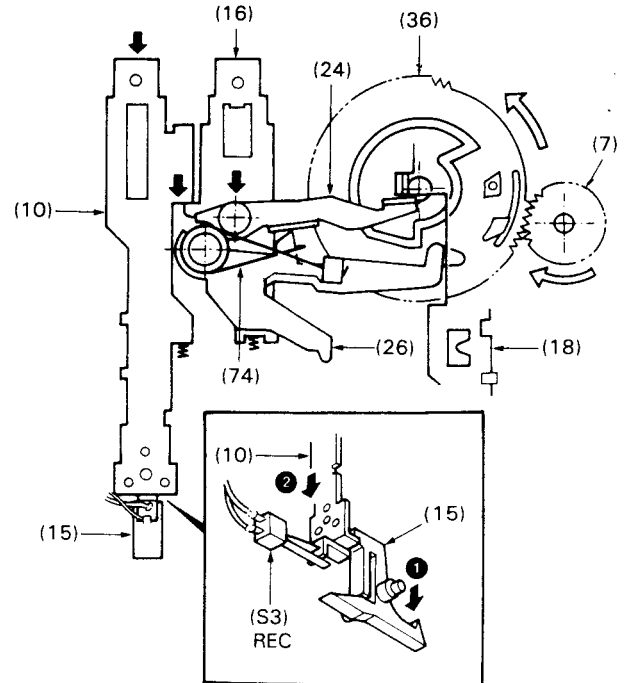

Fig. 13 Rec Operation
7. Rec Operation (See Fig. 13)
- 7-1. The REC SENSOR ARM (15) is swung in the direction of ➡ ① (when the recordable cassette is loaded).
- 7-2. Press the REC LEVER (10) in the direction of ➡ ②. By this operation, the REC switch (S3) is turned ON.
- 7-3. At this time, the PLAY LEVER (16) is pushed by the shoulder of the REC LEVER (10), so, the unit enters the play mode from the view point of mechanism.